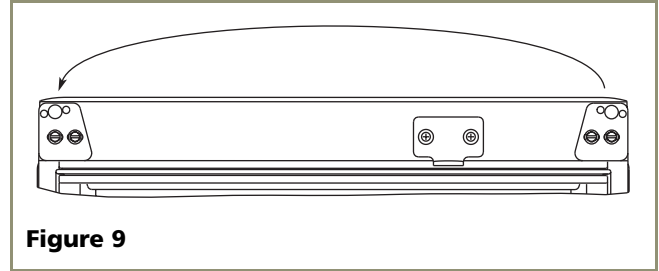

Figure 9
- With bottom of door facing up, remove pivot plate (2 screws), flip over, and remount on opposite side of door (see **Figure 9**). Be sure angled side of plate faces center.